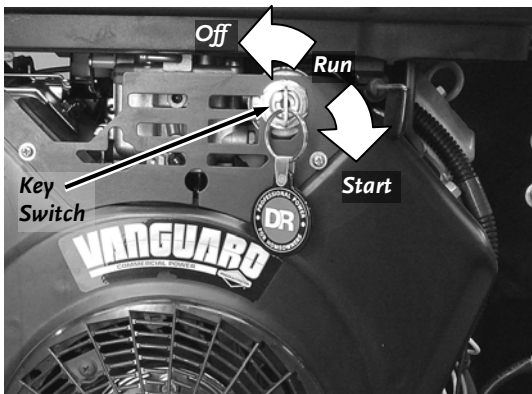

Figure 18
4. Insert the Key and turn it to the "START" position until the engine starts, then release (**Figure 18**). The Key will return back to the "ON" position and the engine will continue to run.